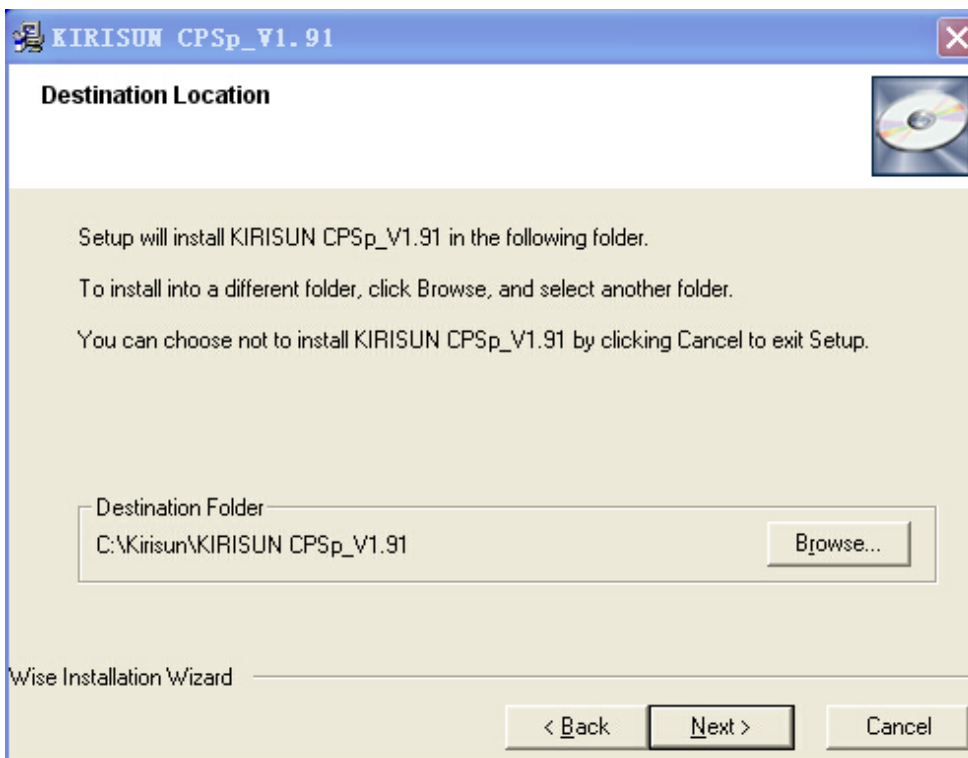

Figure 4.2
- (3) In the interface showed in Figure 4.2, users can click "Browse" to choose the installation route, or use the default route, and click "Next" to enter into the next interface to choose language.